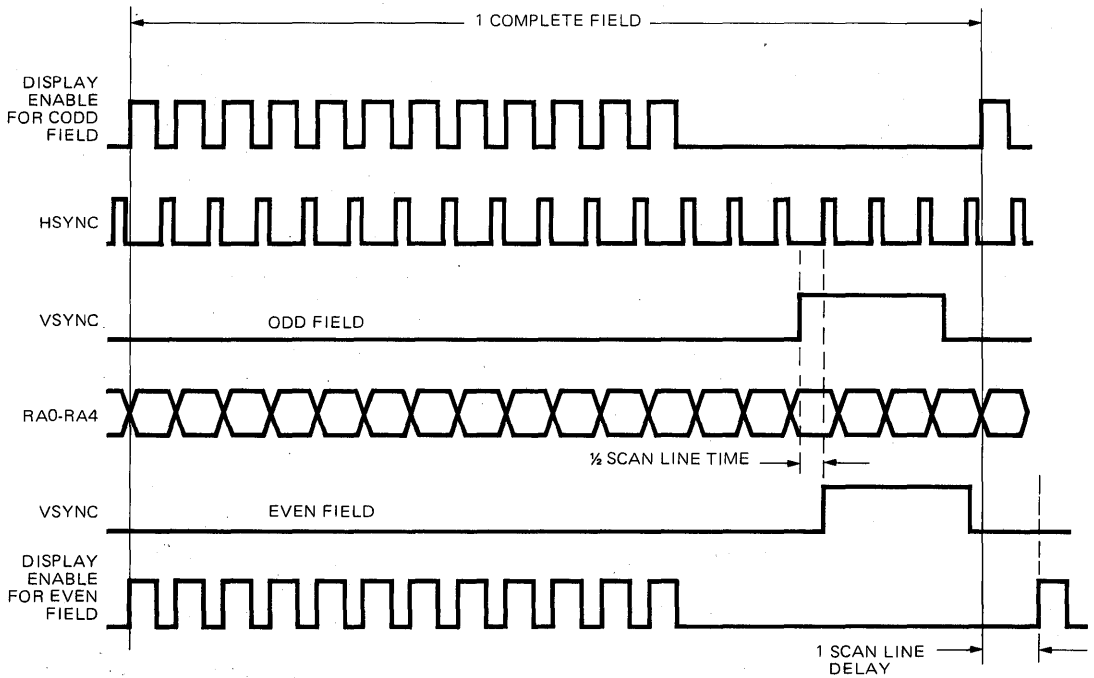

Figure 8. Interface Sync Mode and Interface Sync & Video Mode Timing
b) Interlace Sync Mode. This mode is used when the same information is to be displayed in both odd and even fields. Enhanced readability results because the spaces between adjacent rows are filled and a higher quality character is displayed. This is achieved with only a slight alteration in the device operation: in alternate fields, the position of the VSYNC signal is delayed by $\frac{1}{2}$ of a scan line time. This is illustrated in Figure 8 and is the only difference in the UM6845R operation in this mode.